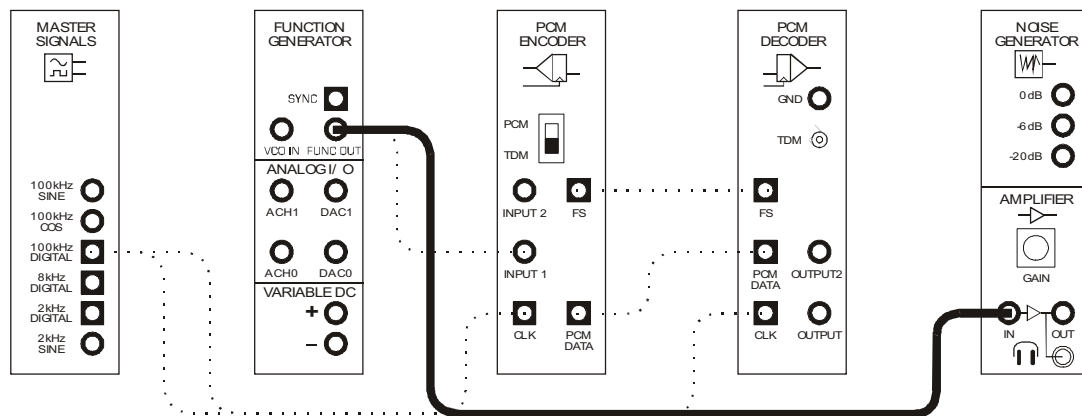

Figure 8
40. Modify the set-up as shown in Figure 8 below, again leaving the scope's connections as they are.
58. Disconnect the Amplifier module's lead where it plugs to the PCM Decoder module's output and connect it to the function generator's output (in the same way that you did when wiring the set-up in Figure 8).